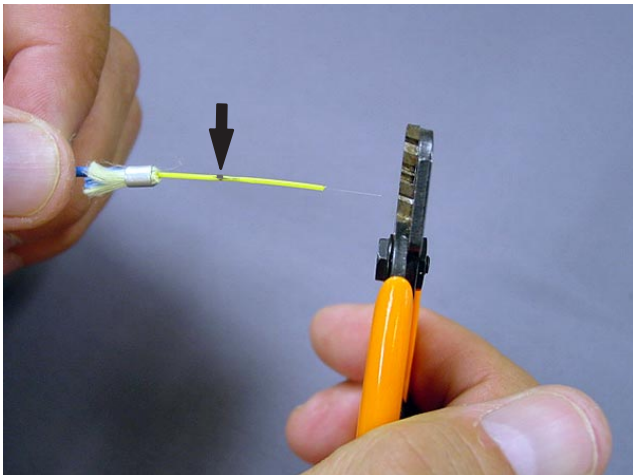

Figure 69
13. Using the combination strip tool, strip the buffer approximately 6 mm [.250 in.] at a time until you reach the mark. See Figure 69. Repeat for second end.